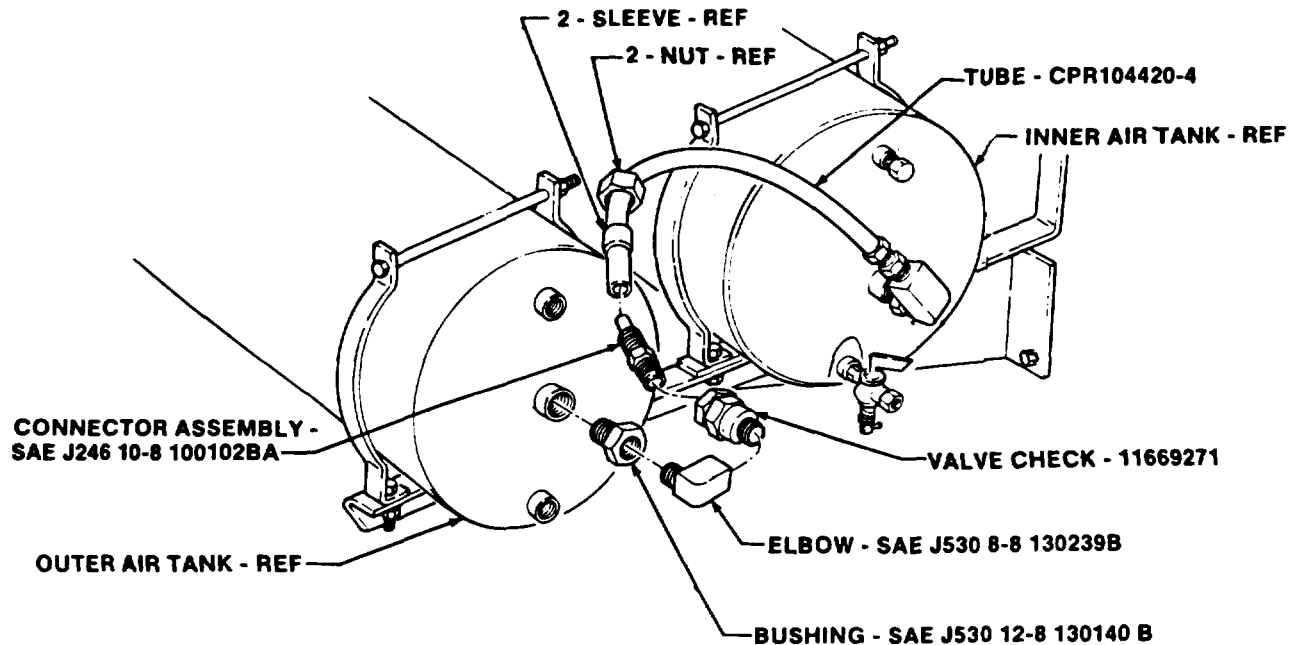

FIGURE 9
(4) Install SAE J530 12-8 130140B bushing in forward end of outer air tank as shown in figure 9.
(5) Install SAE J530 8-8 130239B elbow in bushing on outer air tank as shown in figure 9.
(6) Install 11669271 check valve in elbow on outer air tank as shown in figure 9.
(7) Install SAE J246 10-8 100102BA connector assembly in check valve on outer air tank as shown in figure 9. Retain sleeve and nut for use in step 8.
(8) Install CPRI044204 tube to inner and outer air tanks and secure with two sleeves and nuts as shown in figure 9.